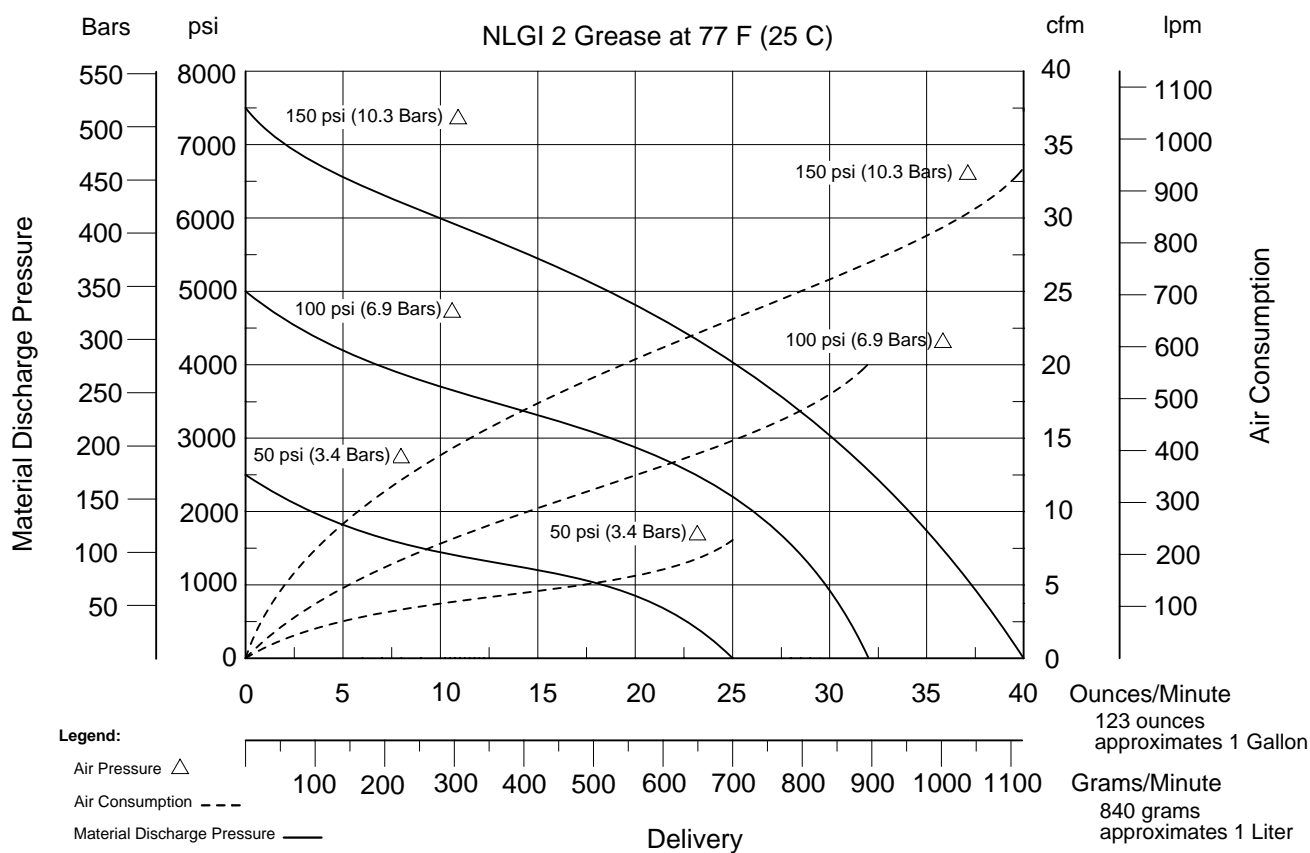

Figure 3 Delivery versus Discharge Pressure and Air Consumption
* For detailed information, refer to Figure 3